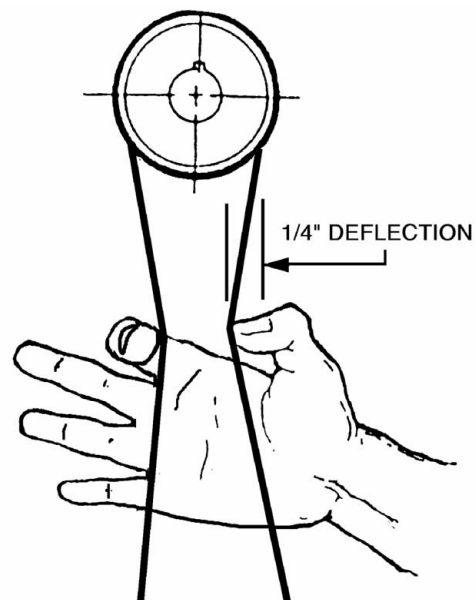

Figure 10
2. Check belt tension. Proper tension is obtained when there is approximately 1/4" deflection of the center span of the pulleys using light finger pressure (Fig. 10).